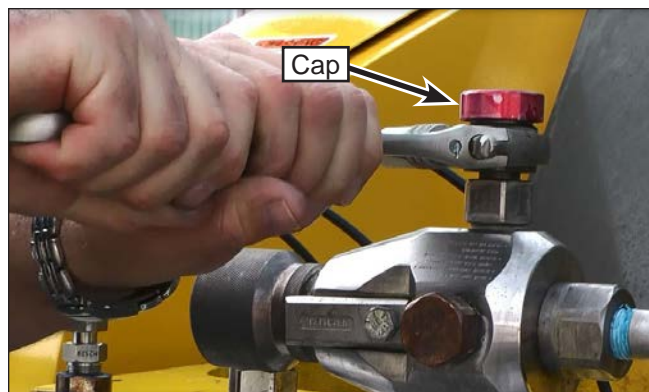

Figure 46: Housing/Cap Removal (15K Manifold Shown).
1. Use an adjustable wrench to remove the cap (Figure 46) from the rupture disc assembly.